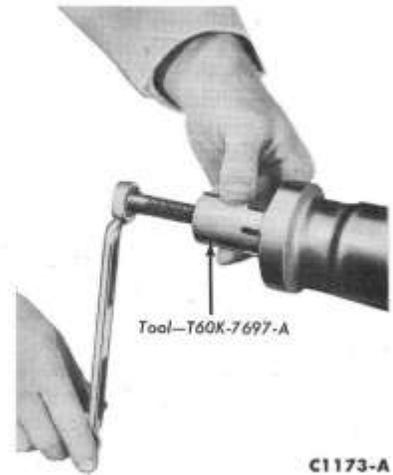

FIG. 10—Bushing Removal
21. If the extension housing bushing is to be replaced, use the tool shown in Fig. 10.